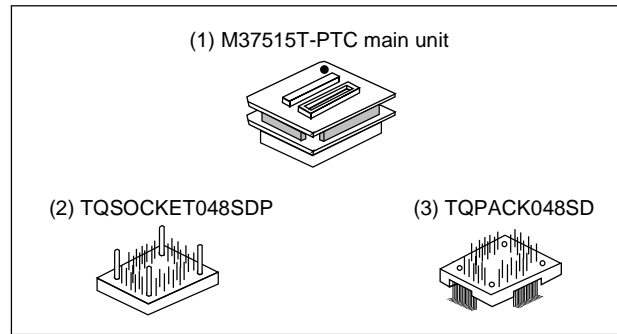

Figure 1 Package components of M37515T-PTC
2. Package Components (see Figure 1)